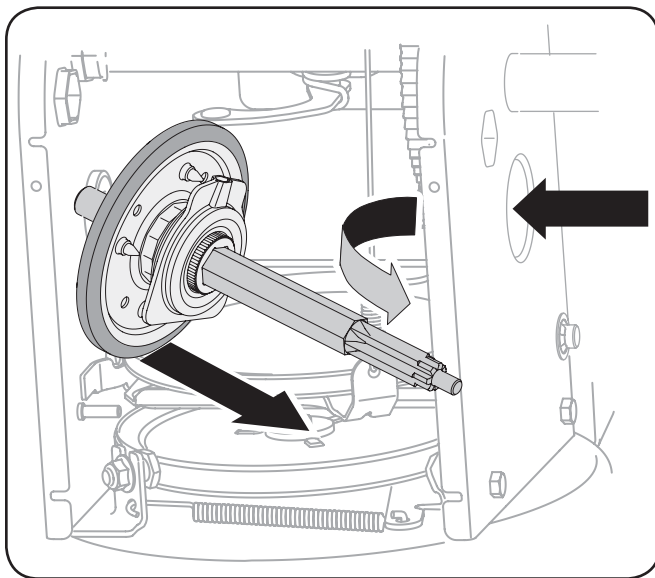

Figure 7-8
6. Carefully position the hex shaft downward and to the left before carefully sliding the friction wheel assembly off the shaft. See Figure 7-8.